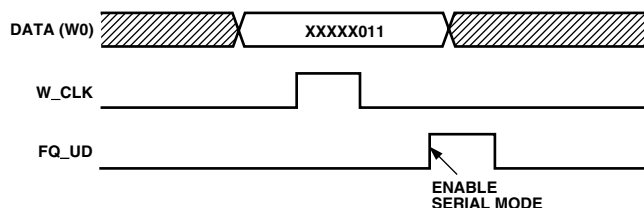
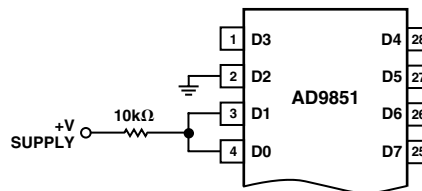
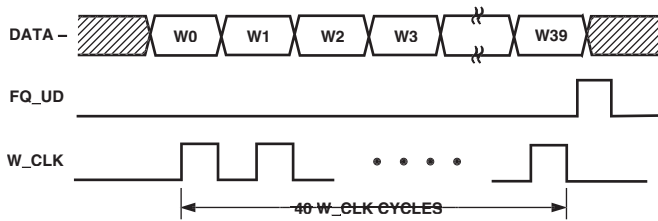

Figure 17. Serial Load Enable Sequence
Figure 18. Hardwired xxxxx011 Configuration for Serial Load Enable Word W0 in Figure 17
Figure 19. Serial Load Frequency/Phase Update Sequence
In serial load mode, forty subsequent rising edges of W_CLK will shift and load the 1-bit data on Pin 25 (D7) through the 40-bit register in shift-register fashion. Any further W_CLK rising edges after the register is full will shift data out causing data that is left in the register to be out-of-sequence and corrupted. The serial mode must be entered from the default parallel mode (see Figure 17). Data is loaded beginning with W0 and ending with W39. One note of caution: the 8-bit *parallel* word (W0)—xxxxx011—that invokes the serial mode should be overwritten with a valid 40-bit serial word immediately after entering the serial mode to prevent unintended engaging of the $6\times \text{REFCLK}$ multiplier or entry into
*This bit is always Logic 0 unless invoking the serial mode (see Figure 17). After serial mode is entered, this data bit must be set back to Logic 0 for proper operation.
Entry to the serial mode, see Figure 17, is via the parallel mode, which is selected by default after a RESET is asserted. One needs only to program the first eight bits (word W0) with the sequence xxxxx011 as shown in Figure 17 to change from parallel to serial mode. The W0 programming word may be sent over the 8-bit data bus or hardwired as shown in Figure 18. After serial mode is achieved, the user must follow the programming sequence of Figure 19.
Note: After serial mode is invoked, it is best to immediately write a valid 40-bit serial word (see Figure 19), even if it is all zeros, followed by a FQ_UD rising edge to flush the residual data left in the DDS core. A valid 40-bit serial word is any word where W33 is Logic 0.